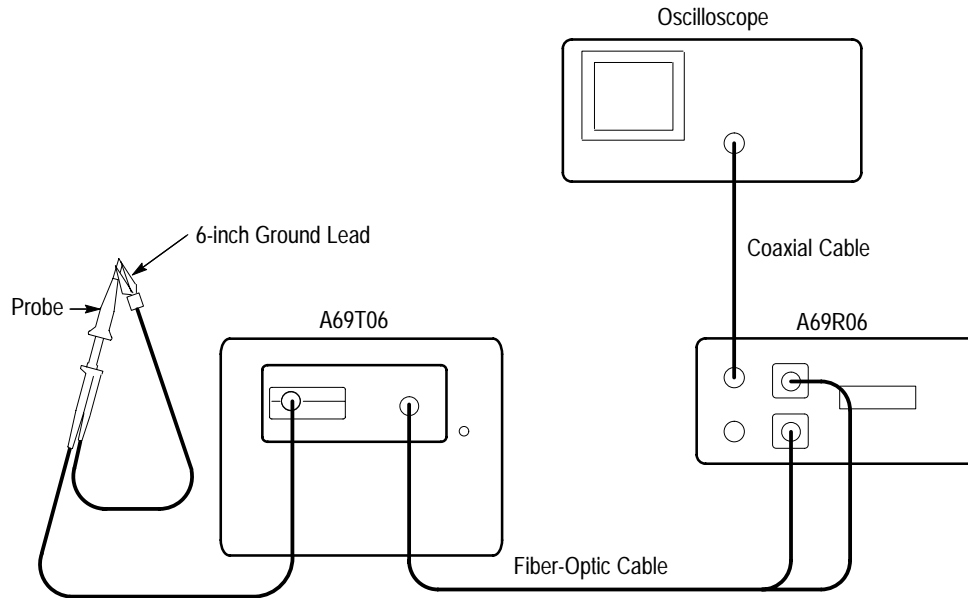

Figure 10: Noise Check Setup
1. Short the probe tip to the probe common lead. The connections should now be configured as shown in Figure 10.